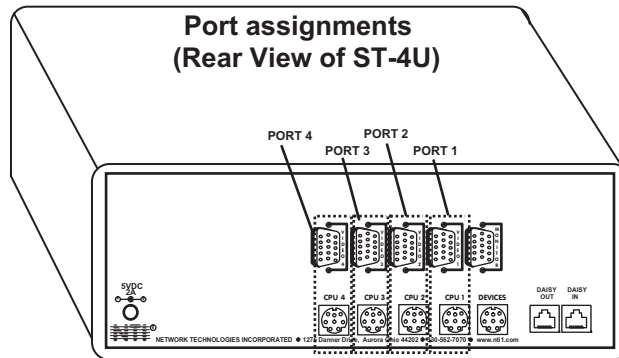

Figure 23- Video and Device connections identified with port numbers
NOTE: The "port" mentioned in the Command Functions above refers to the combination of the video (VIDEO x) and device (CPU x) connections of like numbers that a CPU is connected to (i.e. the CPU that is connected to VIDEO 1 and CPU 1 will be identified as PORT 1 or P01). See Fig. 23.
- A connection to the CPUs from the keyboard would be achieved by typing the appropriate port number. (See Fig. 23 on page 21.)
- When cascading, if not all of the ports are used on each slave attached to your system, THE PORT NUMBER(S) ASSOCIATED WITH THE UNUSED PORT(S) WILL NOT BE ACCESSIBLE when trying to control the switches connected to the system. (I.e. if ports 7 and 8 are not used on the first slave and an attempt is made to connect to ports 7 or 8 while in Command Mode, the NODEMUX will ignore the attempt.)